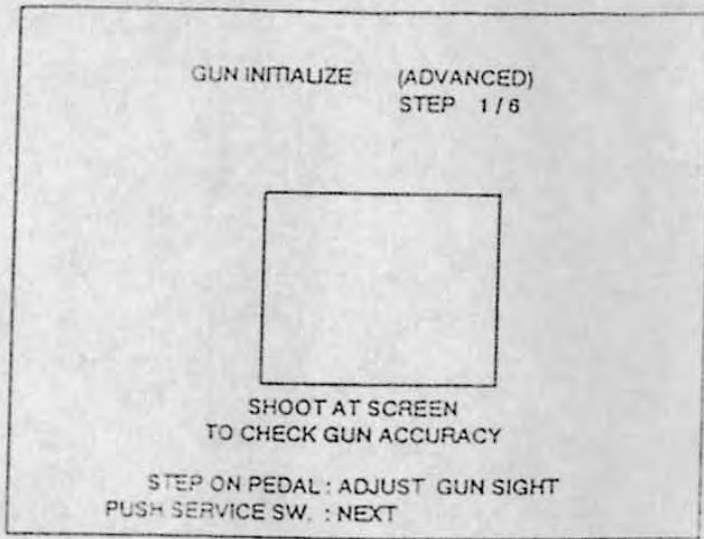
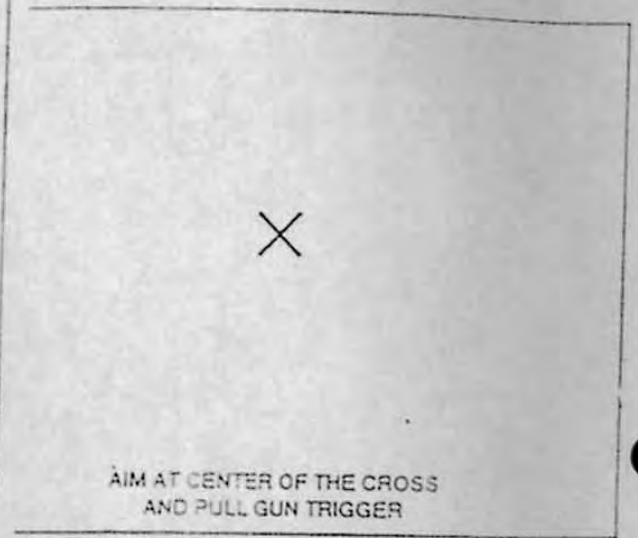
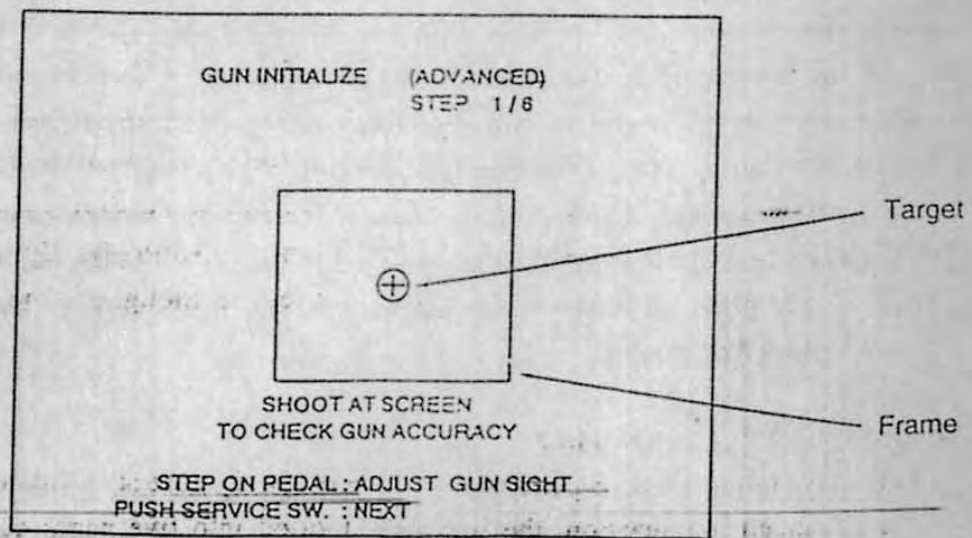

Fig. 6.17 Gun Initialization Screen 4
Fig. 6.18 Gun Initialization Screen 5
Fig. 6.19 Gun Initialization Screen 6
- 8) If gun initialization (advanced) is selected and set (the pedal is stepped on), the gun initialization setting screen shown in the figure below is displayed. (Fig. 6.17)
- 9) Step on the pedal while the screen shown in Fig. 6.17 is displayed. The screen shown in Fig. 6.18 is displayed. Aim and shoot the gun at the "X" in the top right of the screen. The gun is initialized. After the gun has been shot, the screen returns to the screen shown in Fig. 6.17.
- 10) On the screen shown in Fig. 6.17, aim and shoot the gun at the screen. A target will appear (see Fig. 6.19). Make sure that the target appears within the frame shot at.
- 11) If the gun is not initialized properly, step on the pedal to return to the screen shown in Fig. 6.18, and initialize the gun again.